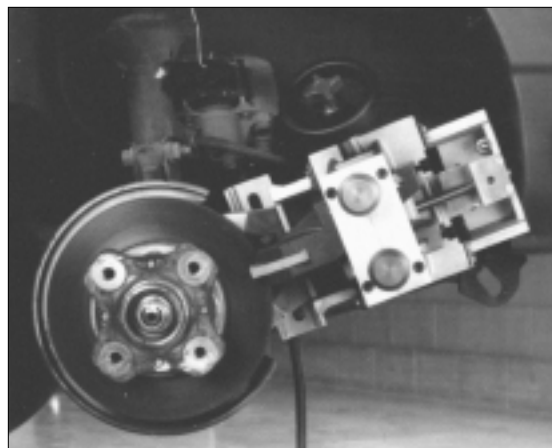

Figure 15
9. Position the cutting bits about 1/2" in from the outer edge of the braking surface, Fig. 15.